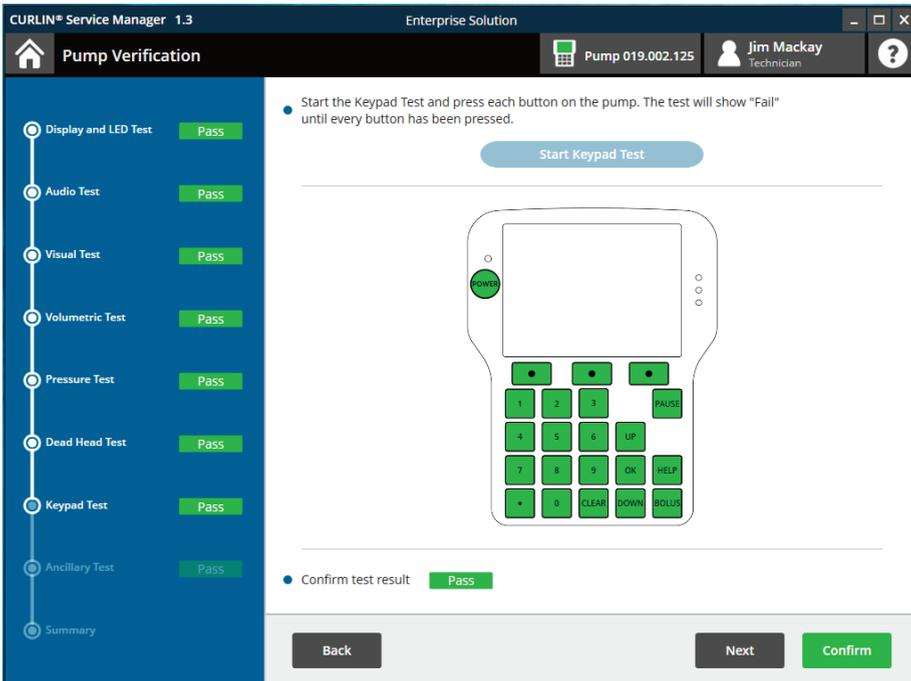

Figure 4-8: Keypad Test Screen
2. In Service Manager, click Start Keypad Test (Figure 4-8).